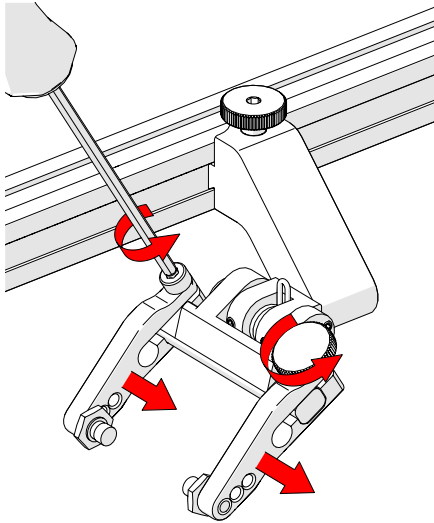

Fig. 32 - Adjust inner probe holder arm
4. Loosen the probe holder arm adjustment knob (Fig. 32) and remove outer probe holder arm from the yoke.
5. Adjust inner probe holder arm as required to best centre the probe on the yoke's pivot axis (Fig. 32).